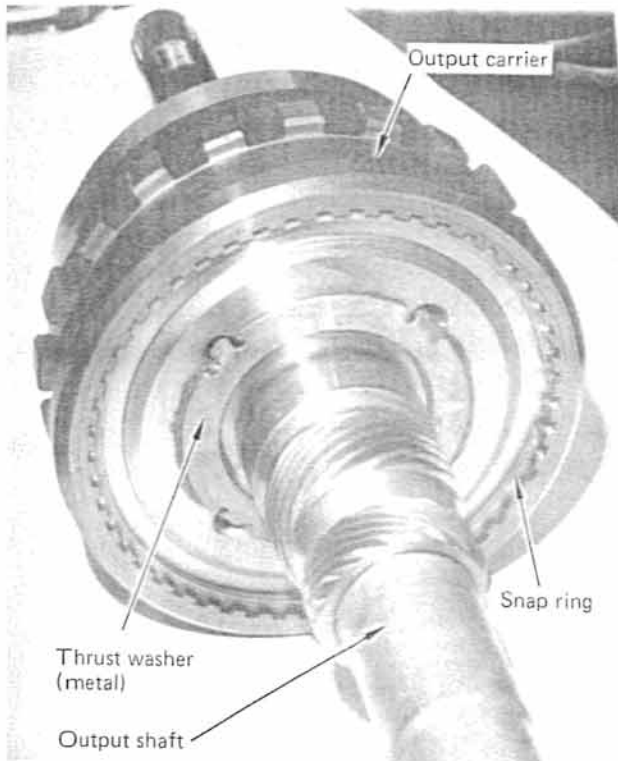

FIGURE 27
**STEP 3.** Remove the snap ring from the back side of the output carrier. (See Fig. 27) Note: This is a strong snap ring. Disassemble output shaft from carrier. There is a bearing assembly between the output shaft and the rear internal ring